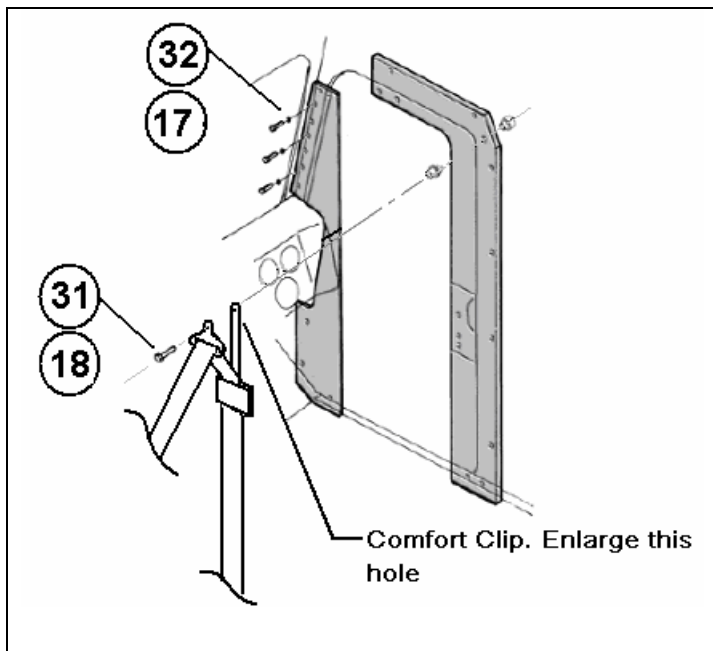

Figure 5-18. RH Kit Installation (1 of 3).
1. Prior to installation of these components, it is necessary to modify the shoulder harness "comfort clip". Reference Figure 5-18. Using a 5/8-in.-diameter drill bit or tapered reamer, enlarge the existing mounting hole on the comfort clip from the current diameter (0.45 in.) to a new diameter of 5/8 in.
2. Install bushing #991 into the outboard facing surface of side panel, #213. Install bushing #992 into the inboard facing side of the side panel, #213 (see Figure 5-18). Note that the large-diameter end of #992 is inserted into the panel and the small diameter end faces away from the panel. These bushings are an interference fit and may require the use of a mallet or press.
3. Position the side panel (#213) in the cab against the interior cab wall as shown in Figure 5-18. Place washer 31 on fastener 18. Insert fastener 18 through the shoulder belt comfort clip, through the shoulder belt anchor fitting, and through bushings #991 and #992. Adjust the position of the side panel until the bolt aligns with the associated hole in the cab side wall. Once aligned, screw fastener 18 in sufficiently to retain the side panel, but do not tighten it at this time.
6. Install the A-Pillar panel as shown in Figure 5-18. The A-Pillar armor panel fits between the outboard end of the instrument panel and the inside surface of the cab A-pillar. Install bolts and washers in every other hole as shown. It may be necessary to adjust the position of this panel slightly during the installation of the toe panels; thus, it is recommended that the bolts not be fully tightened at this time.